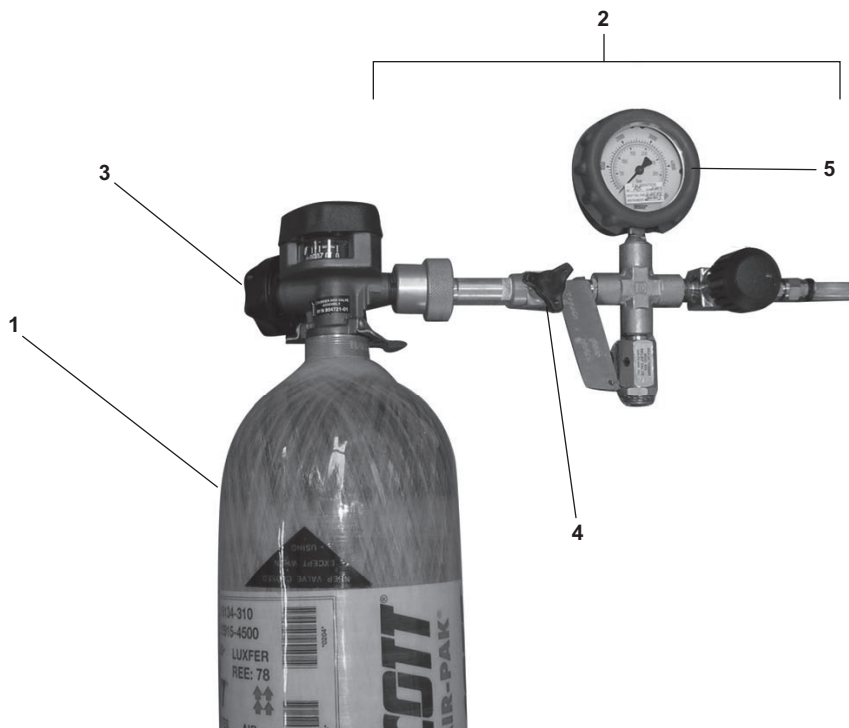

Figure 6-51. SCBA Cylinder and Fill Hose Assembly
- (1) Connect a full SCBA cylinder (figure 6-51, item 1) to the E-BAC/SS fill hose assembly (figure 6-51, item 2) (Chapter 2).
- (2) Slowly discharge the SCBA cylinder (figure 6-51, item 1) by turning the handwheel (figure 6-51, item 3) on the SCBA cylinder to the fully (CCW) OPEN position and OPEN (CCW) the bleed valve (figure 6-51, item 4) on the fill hose assembly (figure 6-51, item 2).
- (3) Once the SCBA cylinder (figure 6-51, item 1) is completely discharged as indicated by a pressure gauge (figure 6-51, item 5) reading of zero, wipe the condensate from the cylinder valve threads with a lint-free rag.
- (4) Fill the SCBA cylinder (figure 6-51, item 1) to 4500 PSI (Chapter 2).
- (5) Remove the E-BAC/SS fill hose assembly (figure 6-51, item 2) from the SCBA cylinder (figure 6-51, item 1) (Chapter 2).